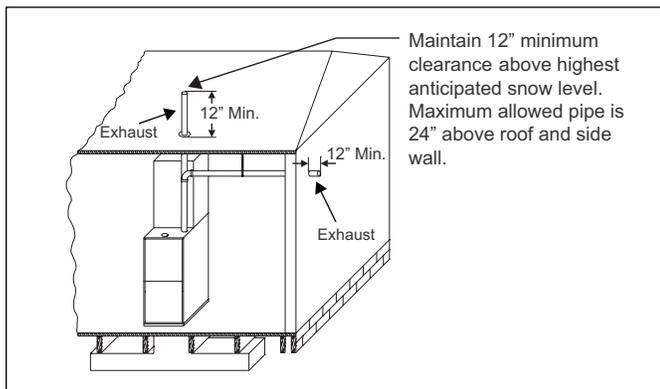
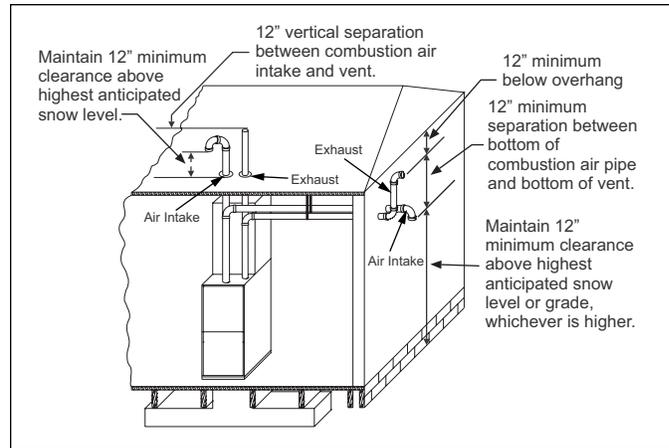

Figure 28 Termination configuration - 1 pipe
Figure 29 Termination configuration - 2 pipe
7. Direct vent systems must be installed so the vent and the combustion air pipes terminate in the same atmospheric zone. Refer to Figure 28 or Figure 29.
Multiple units can be installed in a space or structure as either a single pipe configuration or a two-pipe configuration. The combustion air side of the single pipe configuration shown in Figure 29 is referred to in these instructions as ambient combustion air supply. Follow the instructions for ambient combustion air installations, paying particular attention to the section on air source from inside the building. The vent for a single pipe system must be installed as specified in the venting section of these instructions with the vent terminating as shown in Figure 28. Each furnace must have a separate vent pipe. Under NO circumstances can the two vent pipes be tied together.
If air from outside is brought in for combustion and ventilation, the confined space shall be provided with two permanent openings. The combustion air side of the two-pipe configuration shown in Figure 29 can be installed so the combustion air pipe terminates as described in outdoor combustion air or ventilated combustion air sections in these instructions.